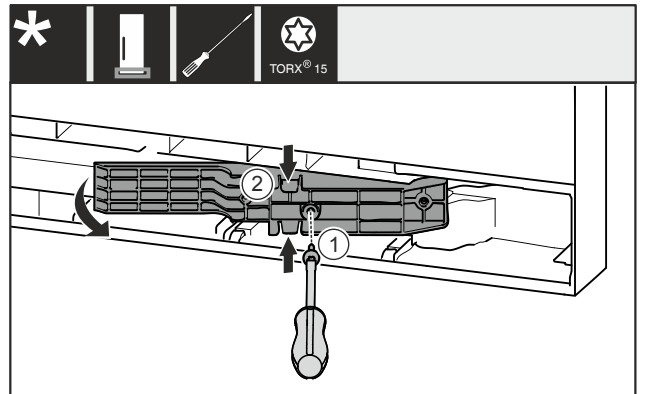

Fig. 13 *
- ▶ Remove the screw Fig. 13 (1)*
- ▶ Gently press the adapter piece Fig. 13 (2) together at the top and bottom and pull it out.*